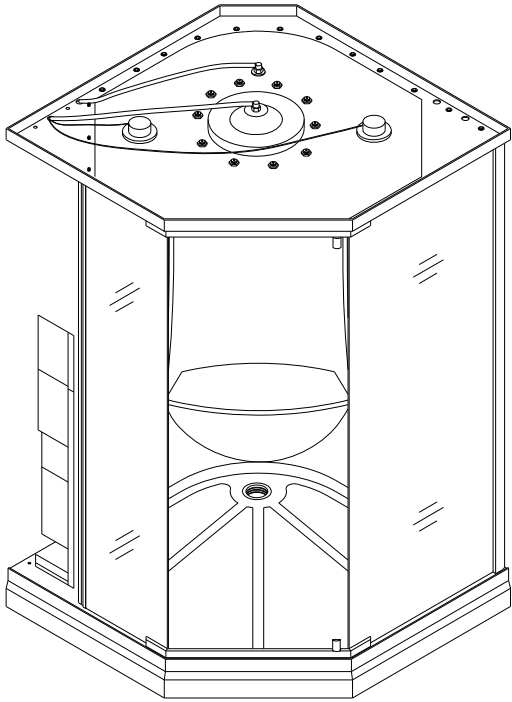

Fig 17
15. Connect the shower head connector and its hose. Pool all wires from roof electric components (Depending on your model and futures) down to the steam generator compartment. Fig 17.